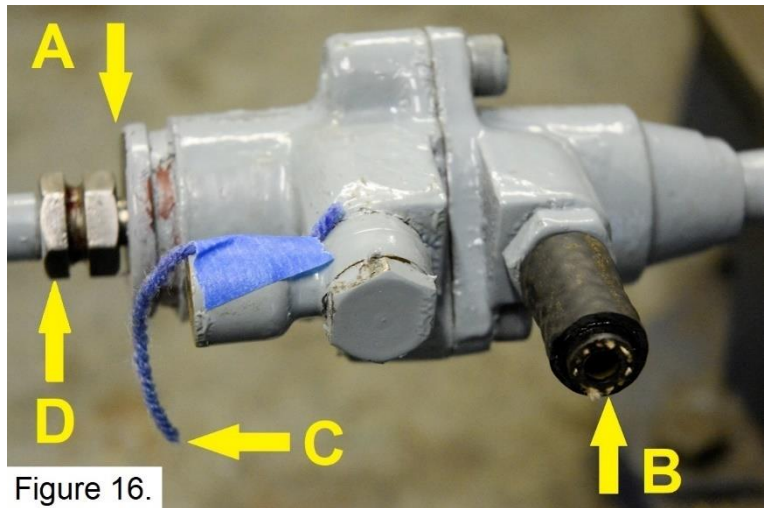

Figure 16.
*Right: Figure 16. Method for setting up the master cylinder recuperating seal test.*
Referring to Figure 16, 'A' shows the gap between the locknut and front body's front face with the plunger in the home position, 'D' is the locknut that has been tightened firmly on the plunger rod, 'B' is a rubber adaptor for an air pressure inlet and 'C' is a piece of floppy knitting wool secured with adhesive tape on the outlet (pressure) fitting. As can be seen, the wool is hanging over the outlet port.